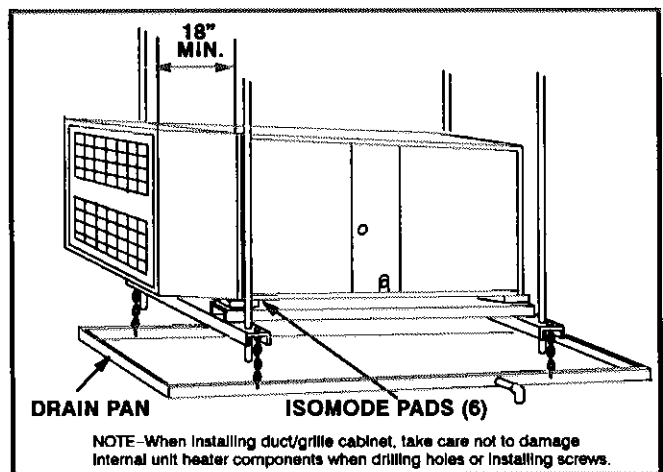

FIGURE 14
- 4- Hang drain pan below support frame as shown in figure 14.
- 5- Mount unit on support frame and slide six isomode pads into place between cabinet and frame as shown in figure 14. Unit must be level to ensure proper coil drainage. Replace blower if removed during hoisting.